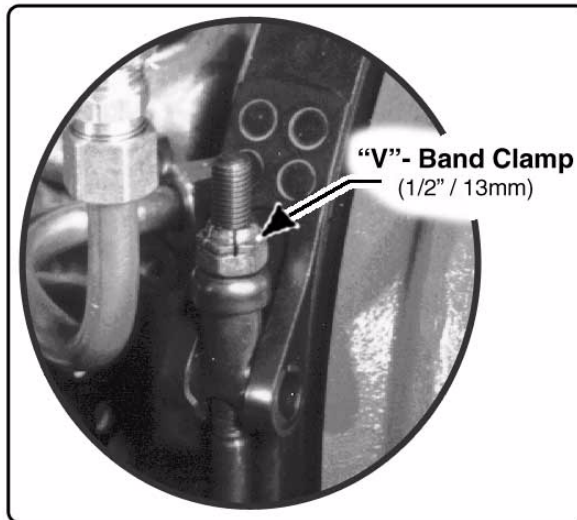

Figure 3-5: Volute “V”- Band Clamp
1. Loosen and remove the “V” band clamp. (See Figure 3-5: “Volute “V”-Band Clamp,” on page 38.) Also see Figure 2-1: “HP Series Portable Pumping Units” on page 17.